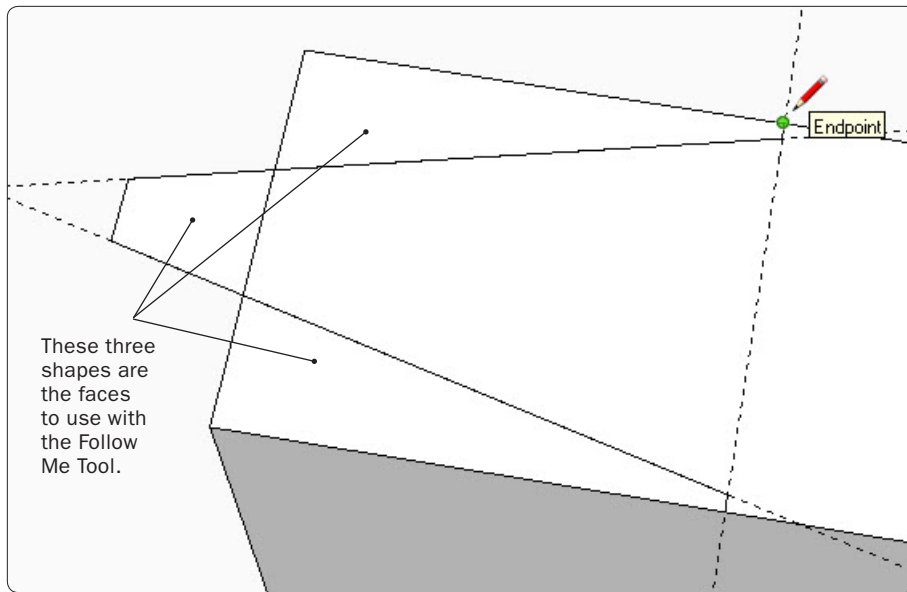
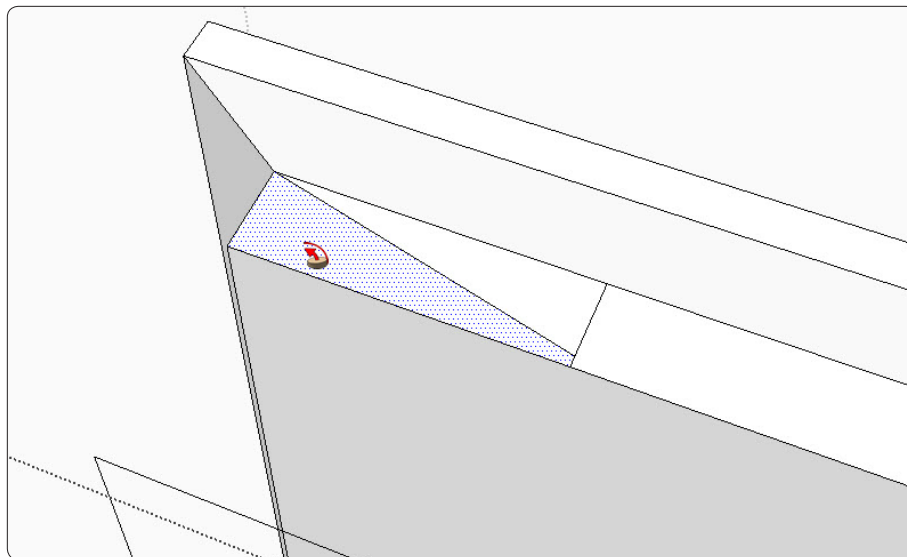
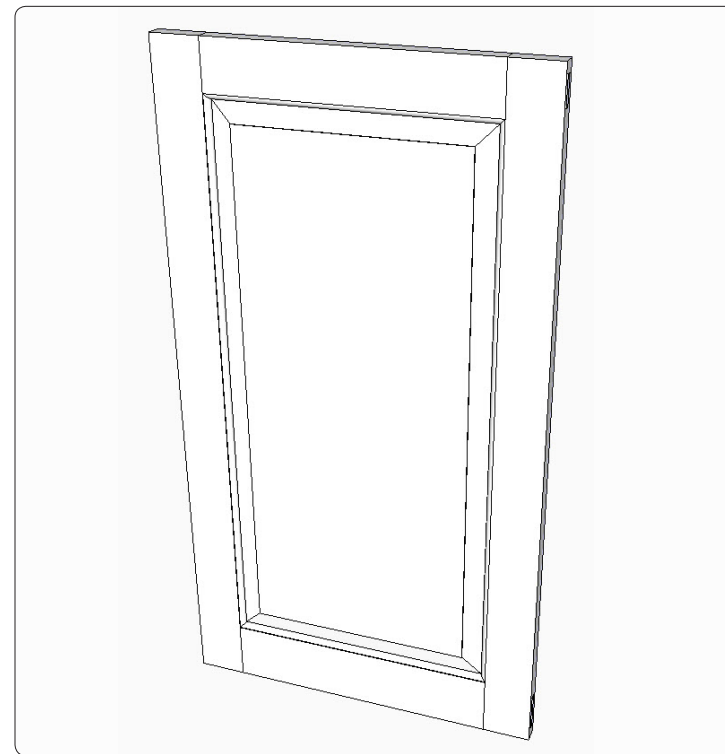

Figure 89. Extend lines from the bevel over the door panel, creating three faces for the Follow Me Tool to use to make the bevels.
Figure 90. Here, the tongue on the door panel has been shaped with the Follow Me Tool. The bevel on one face of the panel is ready to be shaped.
Figure 91. The completed door.
As Figure 89 shows, place guide lines over the sides of the trapezoid shape, and another guide line about $\frac{1}{8}$ in. from where those guide lines intersect the edges of the door panel. Draw over the angled guide lines, as shown in the figure, and add a small line at each side to connect the angled lines with the edges of the panel. These small lines become a shoulder at
Step 11 Create a path for the Follow Me Tool that is the same size as the door panel. Copy the edges and move them away from the model. Select the path, then select the Follow Me Tool and click on one of the three faces shown in Figure 89. Repeat for the remaining two faces. Figure 90 shows the results from two of the Follow Me executions. Use the Eraser Tool to remove any extraneous lines on the faces of the panel. Figure 91 shows the completed door.